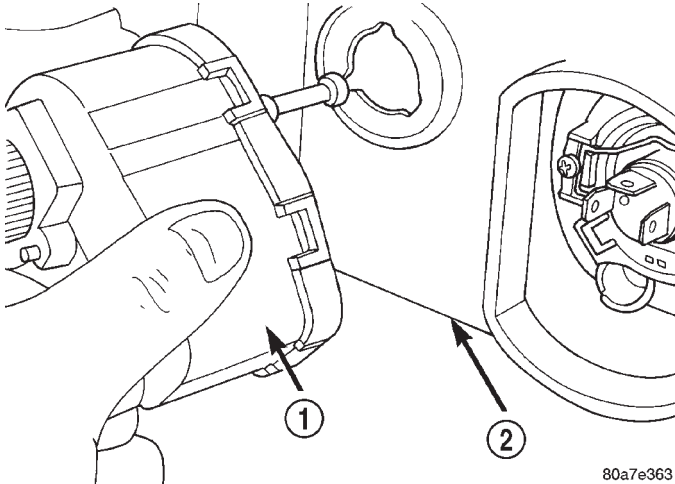

Fig. 6 Headlamp Leveling Motor
(3) Pull headlamp leveling motor from headlamp module. Significant force will be required to separate motor pushrod from headlamp module reflector assembly (Fig. 6).
(1) Snap leveling motor pushrod into headlamp module (Fig. 6).
(2) Rotate headlamp leveling motor clockwise to lock in place once pushrod is secured to headlamp reflector.
(3) Install the headlamp module in the vehicle. Refer to Headlamp Module in the Removal and Installation section of this group.
(4) Check for proper headlamp alignment. Refer to Headlamp Alignment in this group for details.